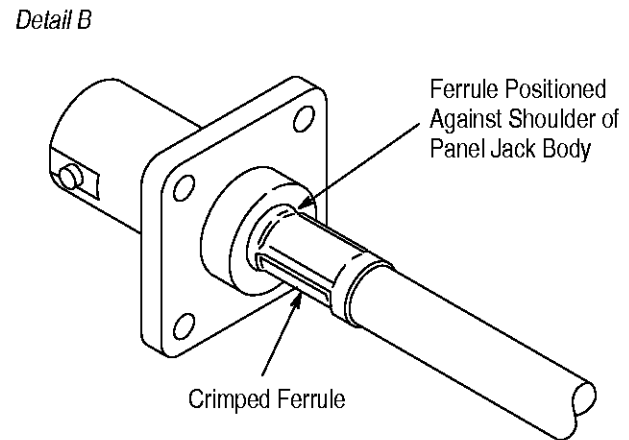

Figure 4
5. Insert center contact into panel jack body. The cable braid must be positioned over the panel jack body support sleeve. See Figure 4, Detail A.
6. Slide ferrule forward over cable braid and support sleeve until it is positioned against the shoulder of the panel jack body. See Figure 4, Detail B.
7. Crimp the ferrule using the recommended frame assembly fitted with appropriate die assembly. See Figure 4, Detail B.